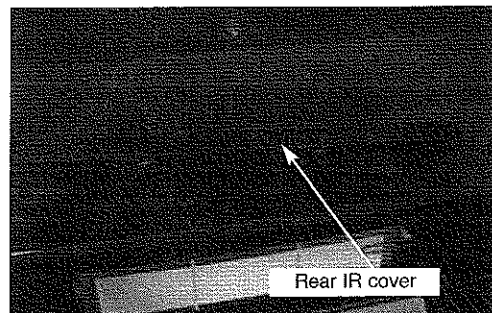

Fig 14
16. Grasp back IR cover. Remove it from the grill and set it aside. (See Fig. 14)